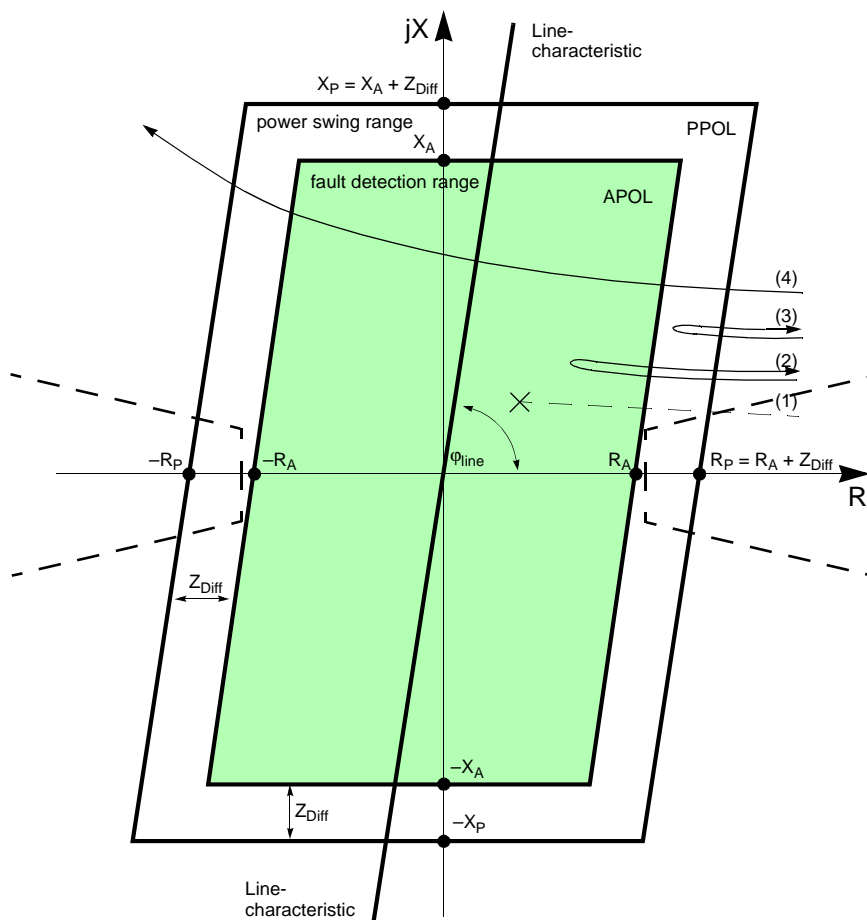

Figure 6-40 Pick up characteristic of the power swing detection for a polygon.
To detect a power swing, the rate of change of the impedance vector is measured. The measurement is started when the impedance vector enters the power swing measuring range PPOL (refer to Figure 6-40). The fault detection range APOL is made up of the largest set values for R and X of all the activated zones. The power swing zone has a minimum distance Z_{diff} of $5\ \Omega$ (at $I_N = 1\ A$) or $1\ \Omega$ (at $I_N = 5\ A$) in all directions from the fault detection zone. In the event of a short-circuit (1), the impedance vector abruptly changes from the load condition into this fault detection range. However, in the event of a power swing, the apparent impedance vector initially enters the power swing range PPOL and only later enters the fault detection range APOL (2). It is also possible that a power swing vector will enter the area of the power swing range and leave it again without coming into contact with the fault detection range (3). If the vector enters the power swing polygon and passes through it leaving on the opposite side, then the sections of the network seen from the relay location have lost synchronism (4): The power transfer is unstable.
When the impedance vectors identified by the power swing detection exit the power swing characteristic PPOL, the sign of the R components in the vectors are checked to see if they are the same on exiting and entering the characteristic. If this is the case, the power swing process is inclined to stabilize. Otherwise, the vector passed through the power swing characteristic (loss of synchronism, case (4) in Figure 6-40). The device issues a three-pole trip command, thereby isolating the two system segments from each other. Power swing tripping is alarmed.